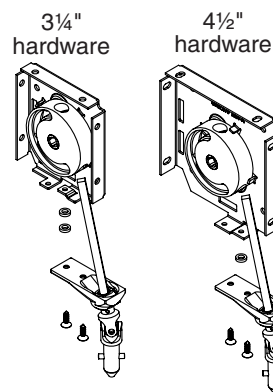

Figure 4
- ① Snap end covers onto endcaps.
- ② Follow steps 1 through 3 under "Crank Operated FlexShades—Endcaps".
- ③ Remove crank handle assembly from crank (operator) endcap and remove the washers (see Fig. 4). Insert shank into hole in center of crank assembly, then slide fabric/roller onto shank (see Fig. 2).
- ④ For coupled units see separate instruction sheet for Coupled FlexShades.
- ③ Drill holes in back or top, depending on how you will be mounting the small pocket.
- ④ Attach endcaps and small pocket headbox extrusion to wall, ceiling or in pocket using mounting hardware appropriate for site conditions.
- ⑤ Remove crank handle assembly from crank (operator) endcap (see Fig. 4 —note: there are no washers with small pocket headbox crank operators). Insert shank into hole in center of crank assembly, then slide fabric/roller onto shank (see Fig. 2).